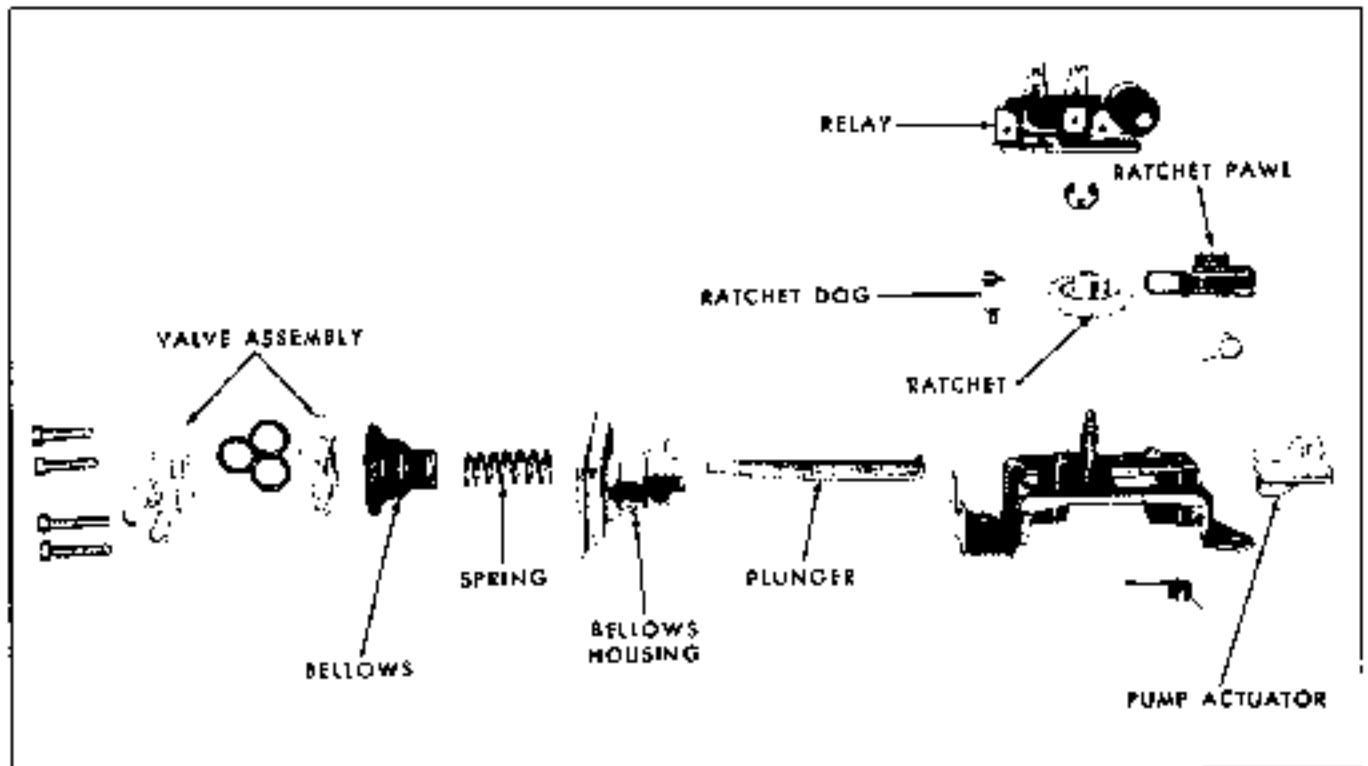

Fig. 12-47 Exploded View Pump Assembly—Tempest and Firebird
2. To release the plastic pump housing from the steel-metal base, pull it in the direction toward the valve end until the housing knurles clear the sheet-metal base. Next, detach the assembly from the cam-follower pin (fig. 12-47).